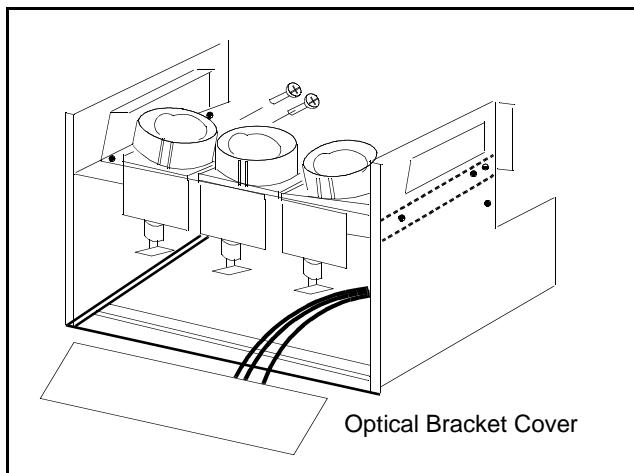

Figure 16. CRT Replacement.
7. Remove (2) screws from the defective CRT housing. See Fig. 16.\*\*
**CAUTION:** Do not remove the (4) CRT lens screws.